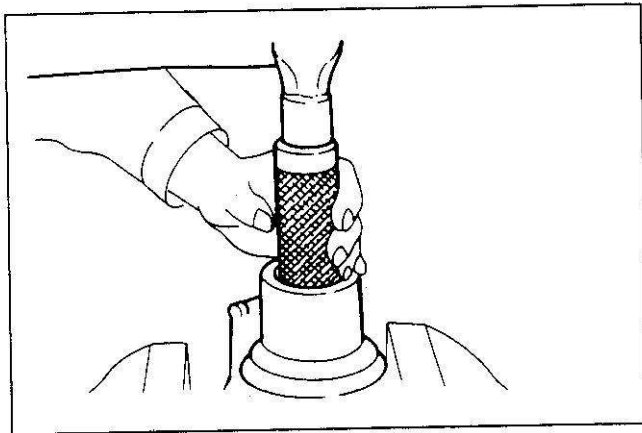

Figure 13. Removing Seal Unit, Washer and Seal
7. Seal unit, washer and seal (7, 10, 12) using a suitable remover (figure 13).